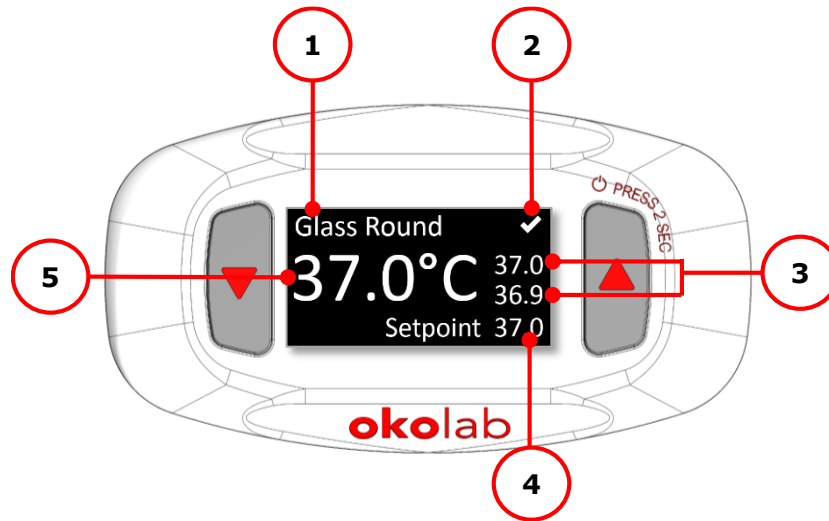

Figure 6. Home page.
Figure 6 shows the main display, in particular it highlights 5 points illustrated below.
H401-T-PENNY can assume four different Status, represented by four Status Icons (see Figure 6 (2)).